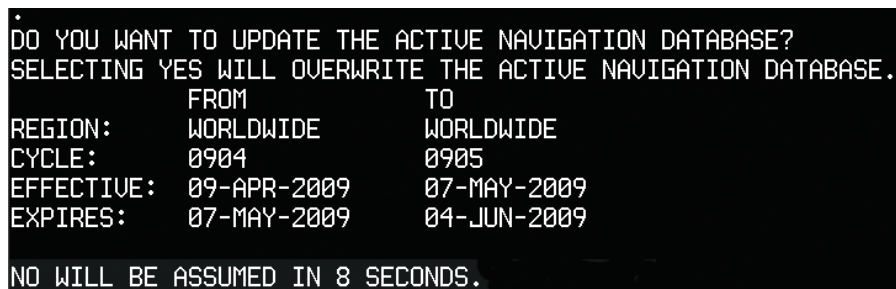

Figure B-6 Active Navigation Database Prompt
- 7) Press any key to continue. The display will now appear as shown in Figure B-6.